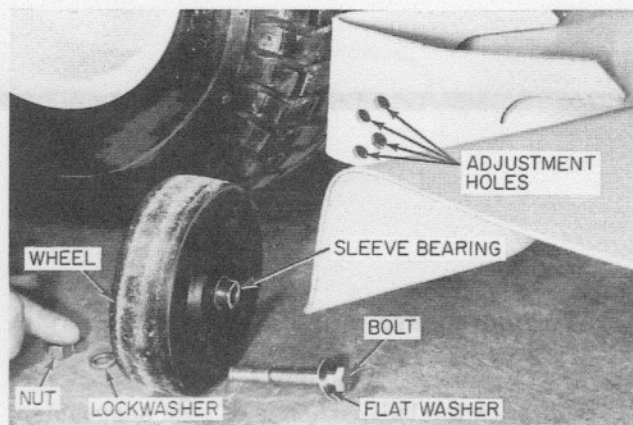

Figure 14
7. Install a wheel assembly in the lowest adjusting hole on each rear corner of the mower. This adjustment gives maximum cutting height for initial mowing passes. A 3/8-inch plain washer should be located between the bolt head and the wheel. Insert a sleeve bearing in each wheel. Secure each with a 3/8-inch lockwasher and nut. (See Figure 14.)